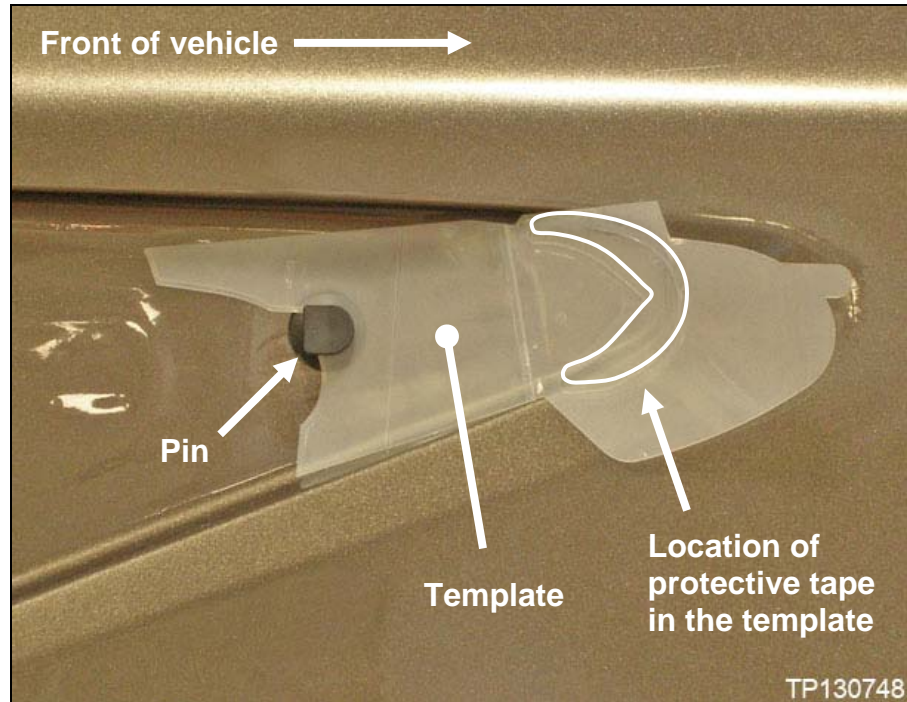

Figure 3
4. Position the template with protective urethane tape up against the pin as shown in Figure 3.
5. While in this position, move the template as needed to locate the protective urethane tape where shown in Figure 3.